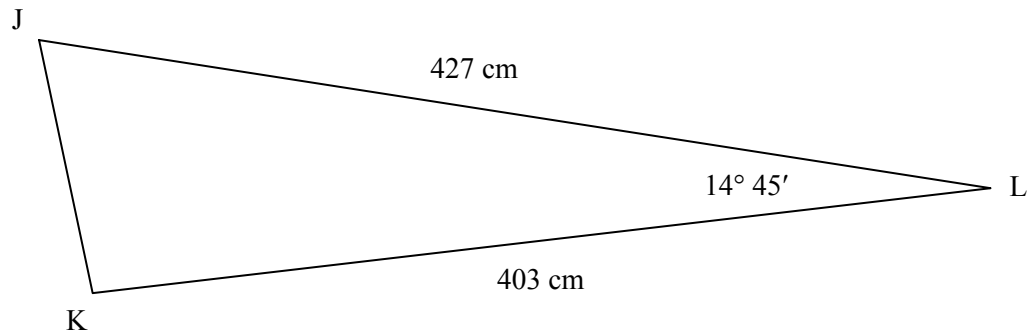

Figure 13-7: Acute triangle
- Calculate the length of side JK in Figure 13-7 using the Law of Cosines.